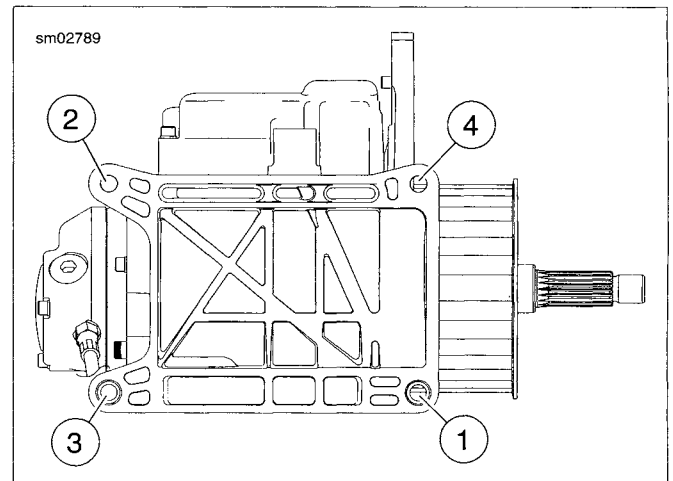

Figure 3-15. Transmission Case Hardware
4. See Figure 3-15. Install transmission case from the right side. Align all four transmission mounting holes verifying that the two lower locating dowels engage their holes in crankcase. Tighten the four transmission mounting bolts in a crisscross pattern as follows.